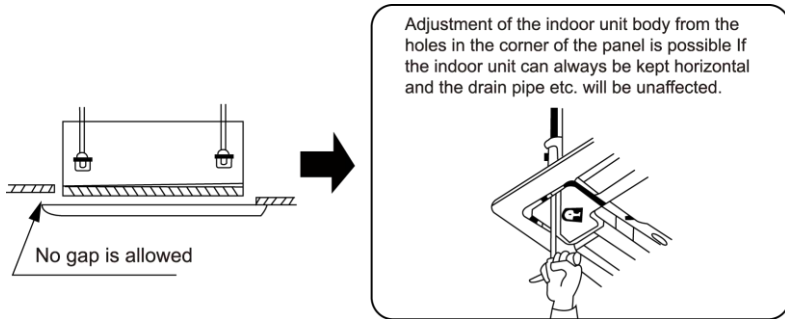

Fig. 4.32
- (3). If gap still exists between ceiling and decoration panel after tightening the screws, readjust the height of the indoor unit (Fig. 4.32).